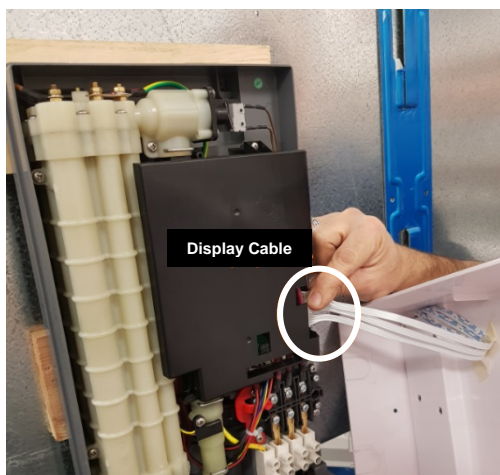

Figure 9: Removing Display Cable
- b) Carefully disconnect the display cable on the side as shown in Figure 9 on page **25**.